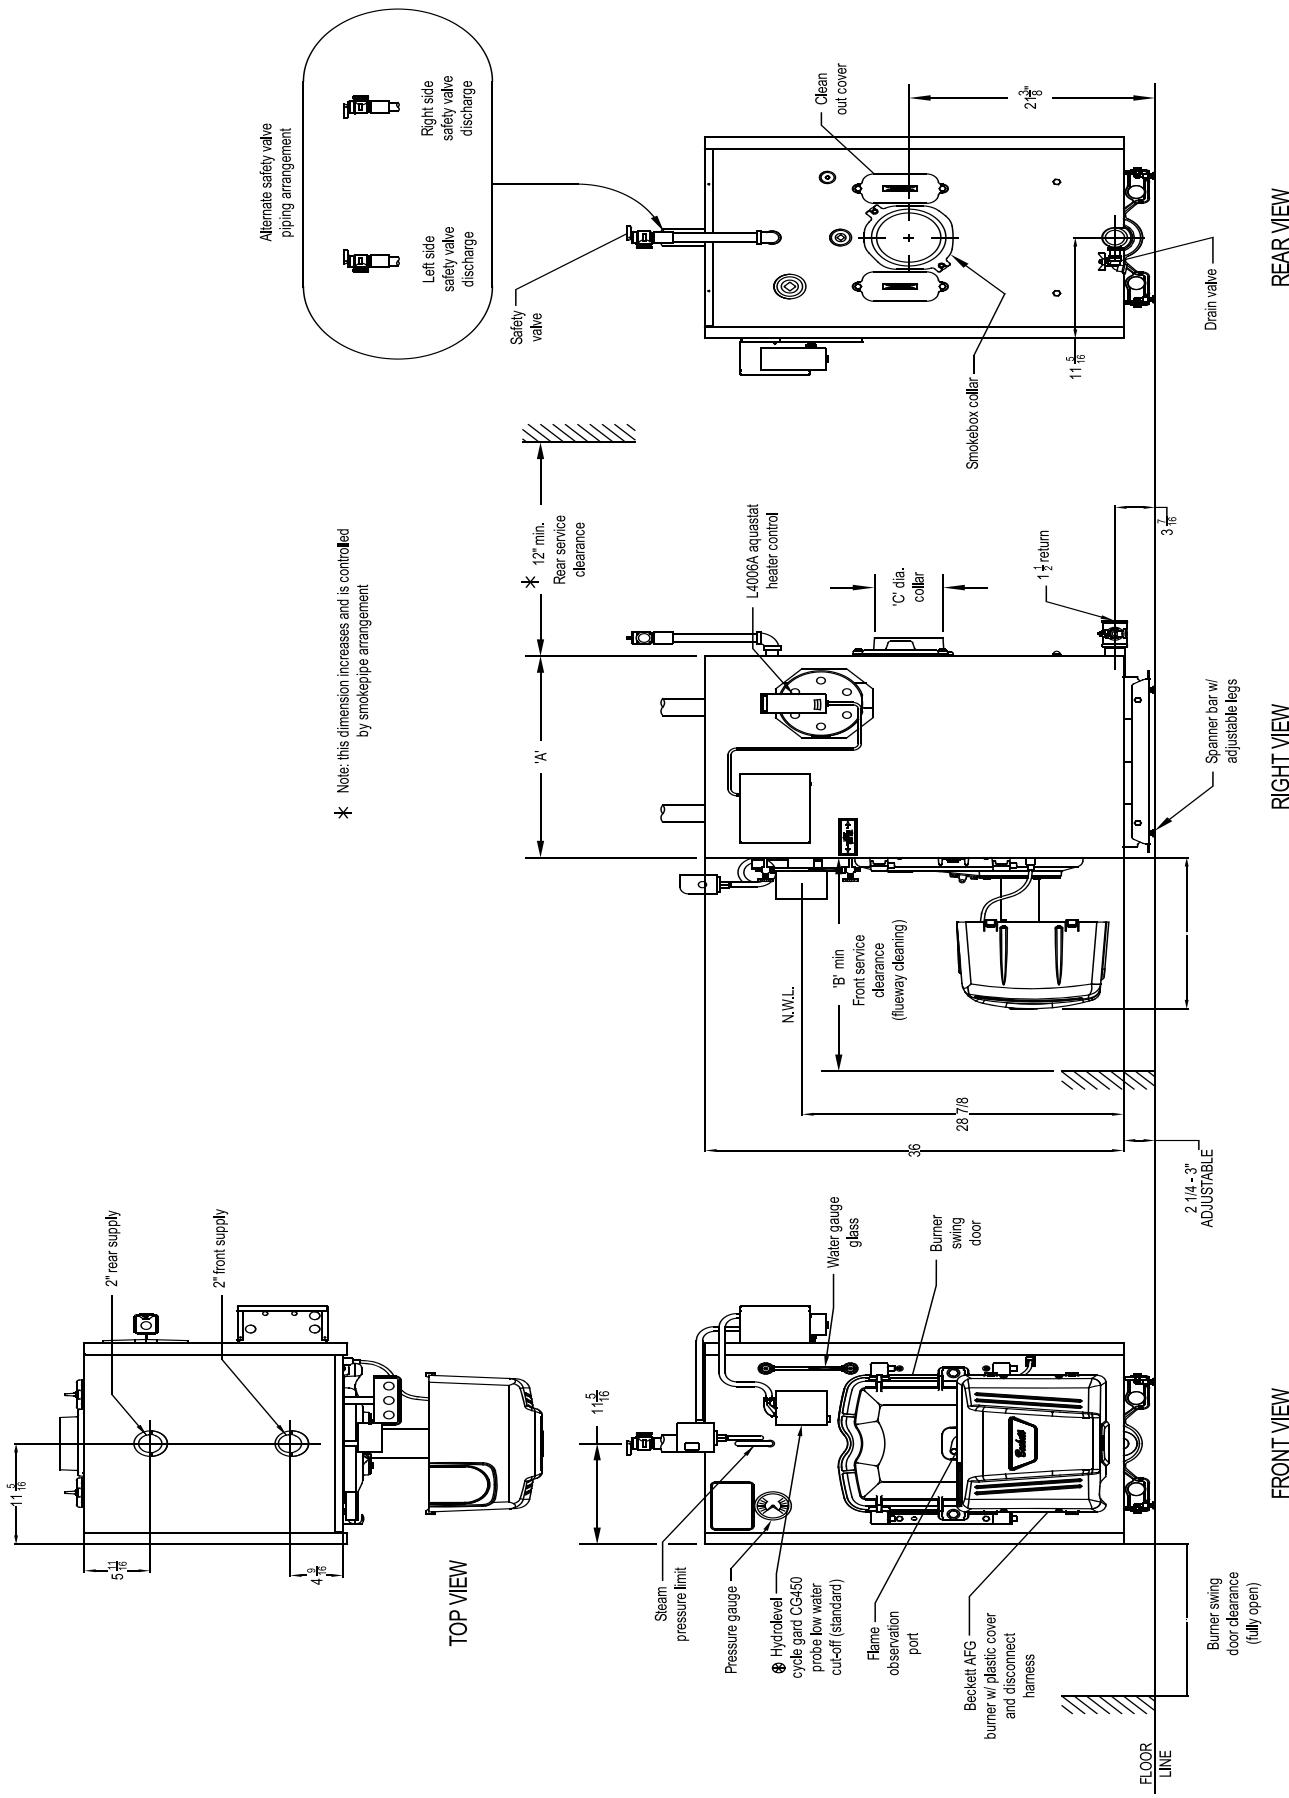

Figure 1: MST288 Thru MST629 Steam Boiler with Tankless Heater (Beckett Burner Shown)
Table 1A: Dimensional (Data See Figure 1)
2. Any claims for damage or shortage in shipment must be filed immediately against the carrier by the consignee. No claims for variances from, or shortage in orders, will be allowed by the manufacturer unless presented within sixty (60) days after receipt of goods.
B. LOCATE BOILER in front of final position before removing crate. See Figure 1.